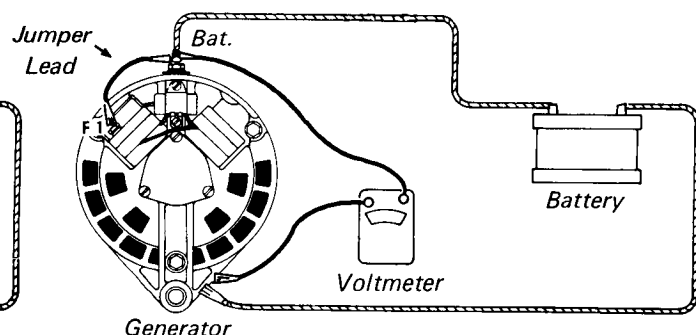

Fig. 4
Step 8. Output test: Disconnect field wire from alternator ("F" terminal) and connect a jumper wire from battery terminal to the field terminal. See Fig. 4. Start engine and run at idle RPM. If voltmeter reads higher than battery voltage, alternator is o.k. If voltage does not read above battery voltage, the alternator is defective and must be repaired or replaced.